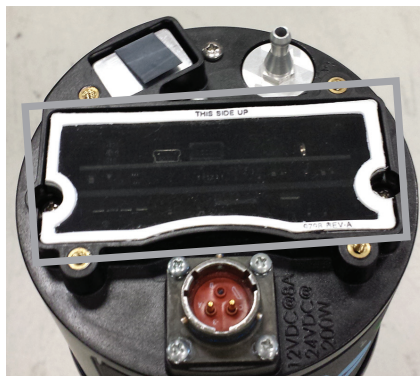

Figure 6-3. Filter
- 6.3.6 Gently remove the filter shown in figure 6-3.